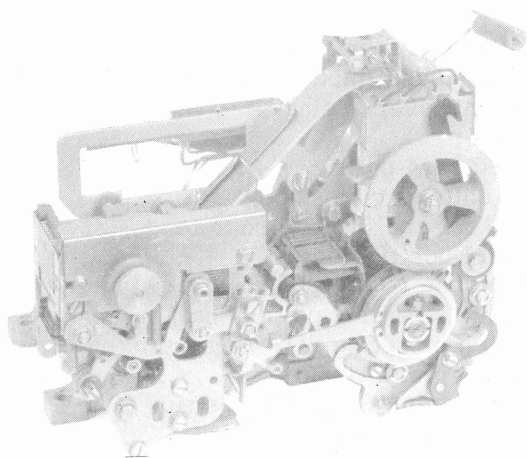

Figure 1 - 37 Non-Typing Reperforator
1.01 This section provides adjustments for the 37 non-typing reperforator unit (Figure 1). It is reissued to change some testing requirements. Arrows in the margins indicate changes.